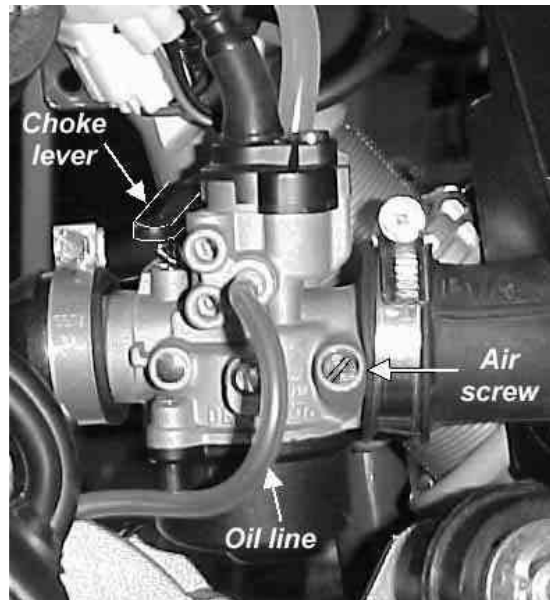

Figure 37 Proper carburetor installation.
1. The motorcycle will only operate properly if the carburetor top is installed properly with the mounting screws, cable and choke knob oriented as shown in figure 37.